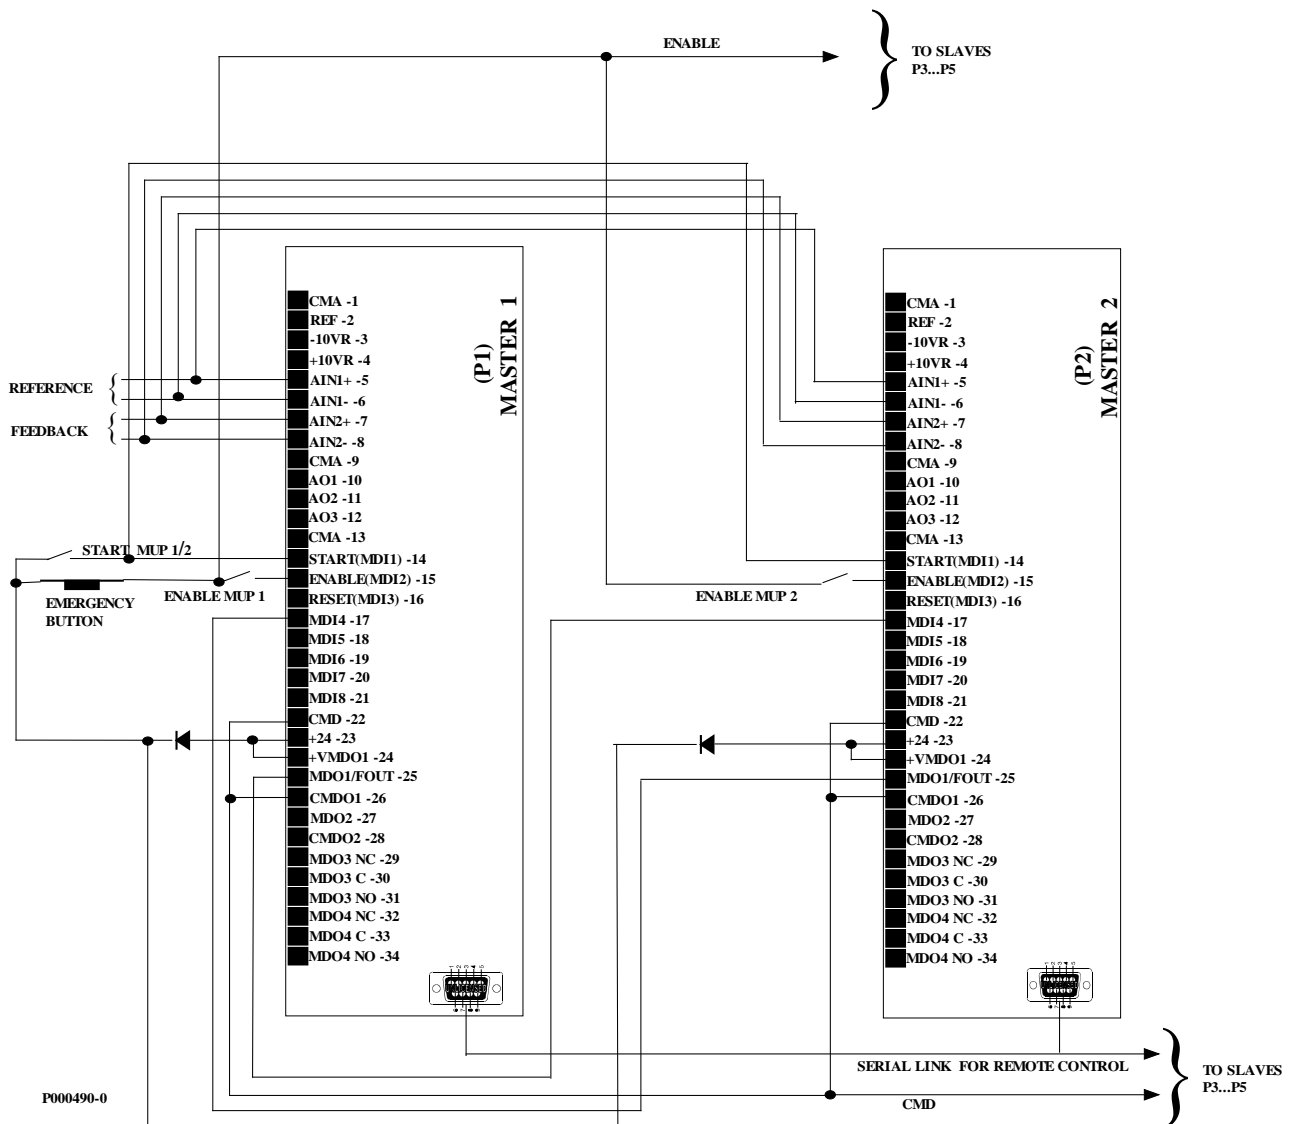

Figure 12: Wiring diagram for Multipump drives in Multimaster configuration.
- Reference and feedback can be configured on either REF, AIN1, AIN2. Wiring above in Figure 12 shows typical wiring with the reference via AIN1 and feedback via AIN2.